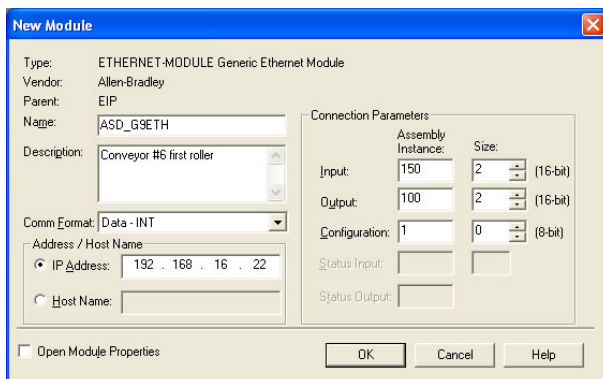

Figure 78: Interface Card Module Properties
- 4) The module properties dialog box will open (refer to Figure 78). Enter a Name and Description which will allow easy identification of the drive on the network (the tags created in RSLogix 5000 will be derived from this Name). Because all drive data is stored as 16-bit registers, change the "Comm Format" selection to "Data-INT". Enter the IP address of the targeted interface card.